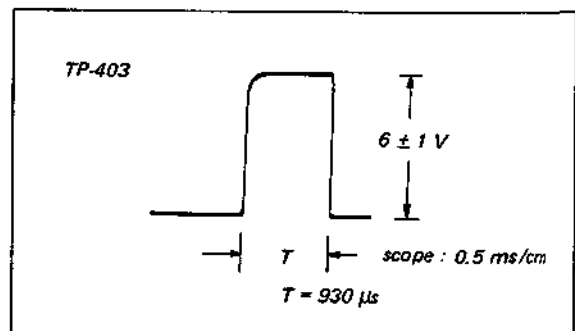

Fig. 6-10. Delay multivibrator adjustment (REC mode)
Adjust for: A pulse width of 930 μsec. See Fig. 6-10.
3. Adjust R413 to obtain the pulse width (T) of 930 μ sec as shown in Fig. 6-10.